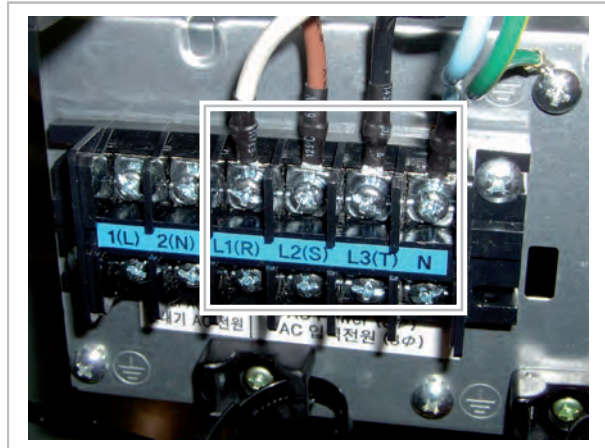

Fig. 10: Connection terminal outdoor unit WKF NEO 180
- With the series WKF NEO 180, make sure that only terminals L1(R), L2(S), L3(T) and N are connected (see Fig. 10).